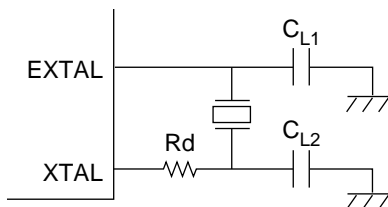

Figure 7.2 Connection of the Crystal Resonator (Example)
Circuit Configuration: A crystal resonator can be connected as shown in figure 7.2. Use the damping resistance R_d shown in table 7.1. Use an AT-cut parallel resonating crystal with a frequency equal to the system clock (CK) frequency. Connect load capacitors (C_{L1} and C_{L2}) as shown in the figure. The clock pulse produced by the crystal resonator and internal pulse generator is sent to the duty cycle correction circuit where its duty cycle is corrected. It is then supplied to the LSI and to external devices.